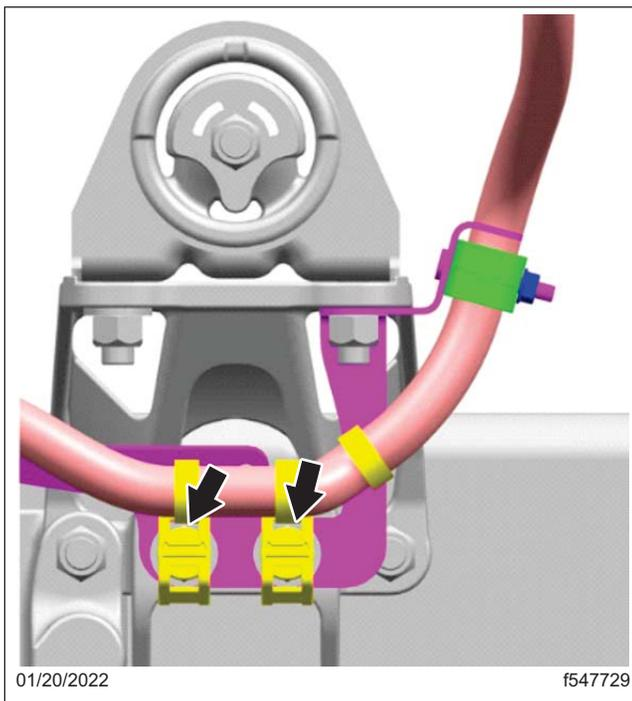

Fig. 26, Push-On Tie Mounts Installed
- 10.1 Install the two push-on tie mounts (23-13805-062) on the exposed thread portion of the two right side cab mount frame bracket bolts. See Fig. 26.